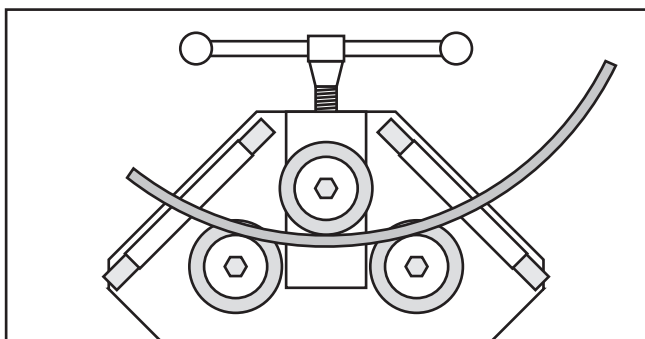

Figure 18. Example bend after multiple bending passes.
10. Repeat **Steps 4–9** until you achieve desired radius (see **Figure 18**).